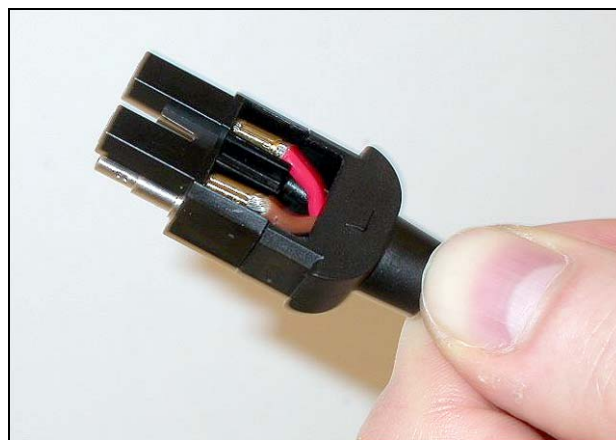

figure 3.30: Mounting block/back housing assembly
- 29 Put the mounting block in the back housing (see figure 3.30)